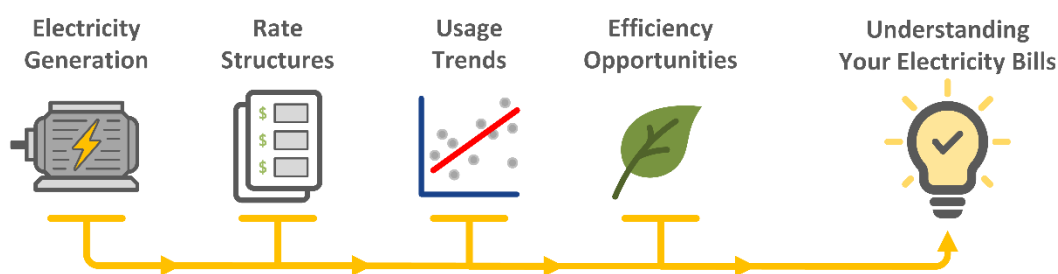

Figure 1: Key pieces needed to fully understand your electricity bills.
This document provides guidance on the basics of understanding electricity bills (Figure 1). Section 2 provides an overview of how electricity is generated and delivered to your facilities. Knowing how the electric grid is managed is key to understanding why utilities charge for consumption and demand, as well as why poor power factor (PF) and spikes in demand are penalized. Section 3 gives an overview of the different types of charges on your bills, including consumption, demand, and riders, while Section 4 discusses different rate structures your utilities might offer. Section 5 reviews simple energy and cost-saving opportunities that you can identify by analyzing your electric bills. Finally, Section 6 provides a detailed example of how the concepts discussed in this guidance can be applied to a set of electricity bills.